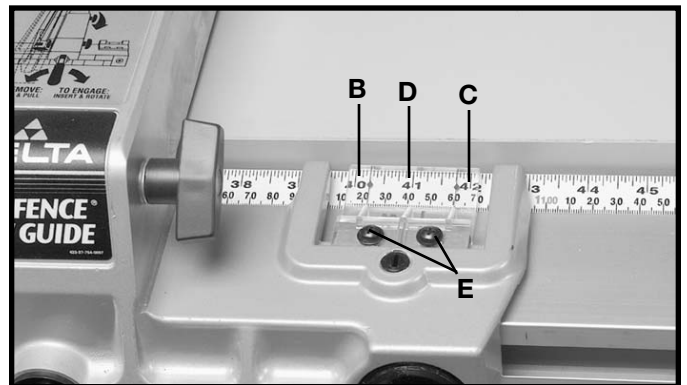

Fig. 44
5. The distance the fence is positioned away from the blade is indicated by the two witness lines (B) and (C) Fig. 44, located on the cursor (D). Witness line (B) indicates the distance the fence is away from the blade when the fence is in the horizontal position, and witness line (C) indicates the distance the fence is away from the blade when the fence is in the vertical position. If it is necessary to adjust cursor (D), make a test cut with the fence in either the vertical or horizontal position, measure the distance of the finished cut and move the cursor (D) by loosening the two screws (E) Fig. 44. After adjustment is completed tighten the two screws (E).